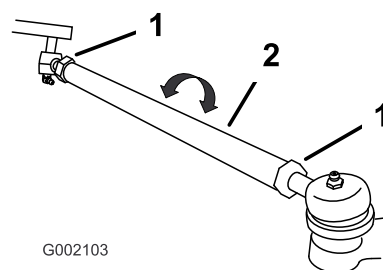

Figure 33
4. If the measurement does not fall within 0-1/4 inch (0-6 mm), loosen the jam nuts at both ends of the tie rods (Figure 33).